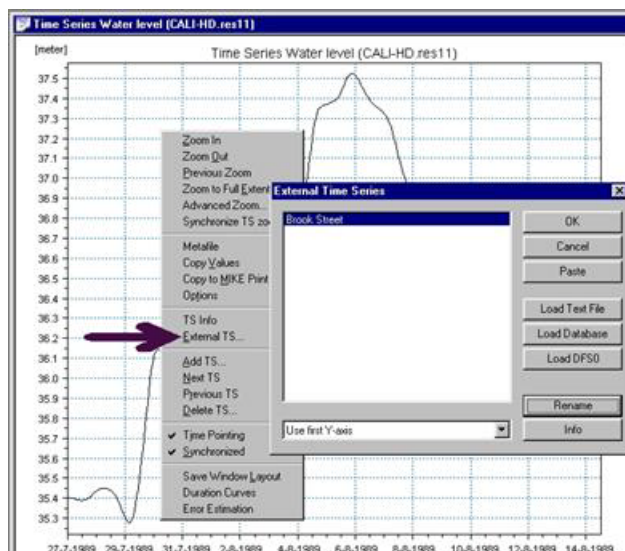

Figure 12.38 Adding an External Time Series via the Local Menu
3. Make the TSW active. Select the local menu option "External TS...". In the ETS dialog select the <Paste> button. This opens the dialog for specifying a file name for the time series that we want to paste from the Clipboard. Specify a file name and select <OK> (see Figure 12.38).